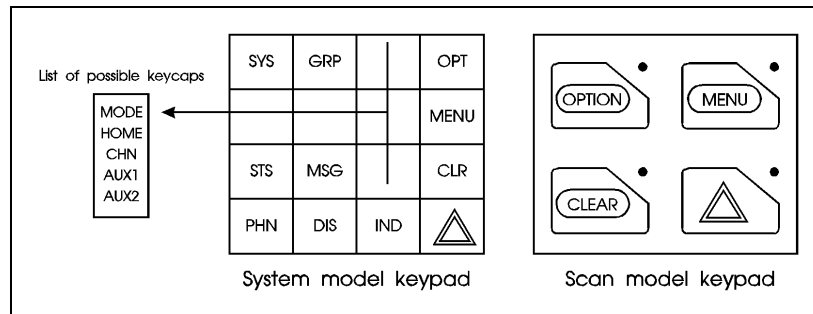

Figure 7-3: Standard M7100^{IP} Keypads Configuration
The Standard keycap package for the System radio includes five (5) labeled keycaps (MODE, HOME, CHN, AUX1 and AUX2) and six (6) blank keycaps, which can be placed on any of the five key locations (numbers 3-6 and 9) shown in Figure 7-3. The keycap represents the primary function programmed for that key location. See Section 7.7.3 for a description of the primary function associated with these five (5) keycaps.